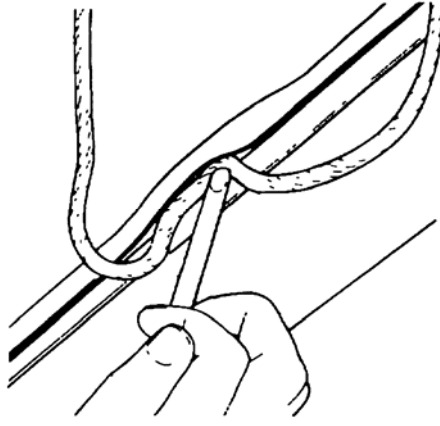

Figure 7 Rubber Seal - Installing Rope
- d. Using approximately four metres of rope with a diameter of seven millimetres, insert the rope into the groove of the rubber seal (Figure 7) starting at the bottom centre of the glass and leaving enough rope at the start to enable the rope to be pulled on installation.